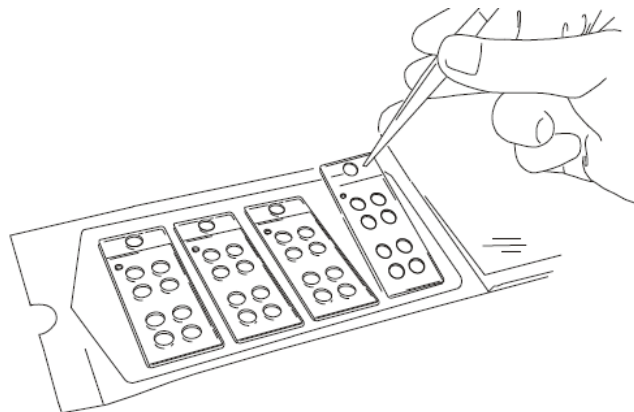

Figure 3
3. Using a sterile forceps, lift the coverslip by grasping the silicone as shown in Figure 3.